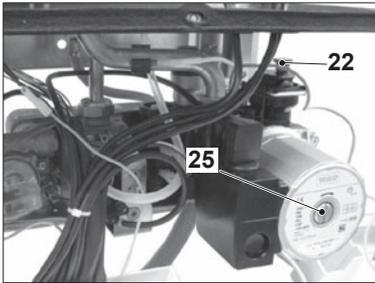

Fig. 7.3
- Lift the cap on the automatic air purger valve 22 in Fig. 7.3 one full turn and leave open permanently.
- Purge the air from the pump by unscrewing the pump plug 25 (Fig. 7.3); release the pump shaft by turning in the direction indicated by the arrow on the information plate.